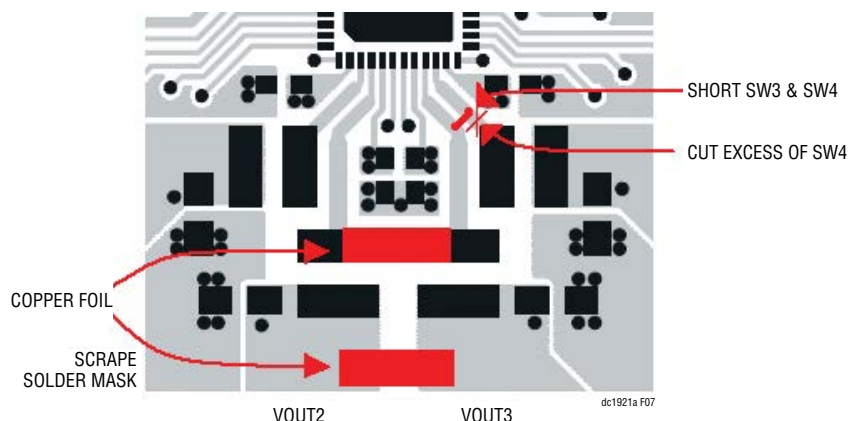
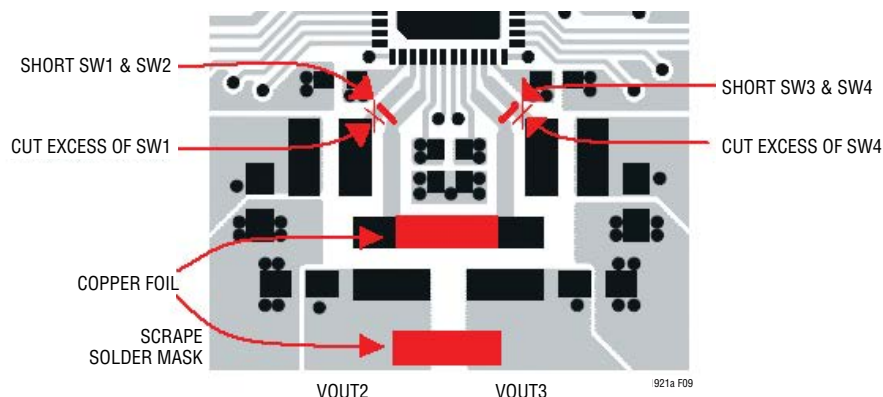

Figure 7. Copper Foil Between L2 and L3; Modified SW4 Trace
Figure 9. Copper Foil Between L2 and L3; Modified SW1 and SW4 Traces
2. Add copper foil between the L2 and L3 pads. Refer to Figure 7 for steps 2 through 5.
2. Add copper foil between the L2 and L3 pads. Refer to Figure 7 and Figure 9 for steps 2 through 5.